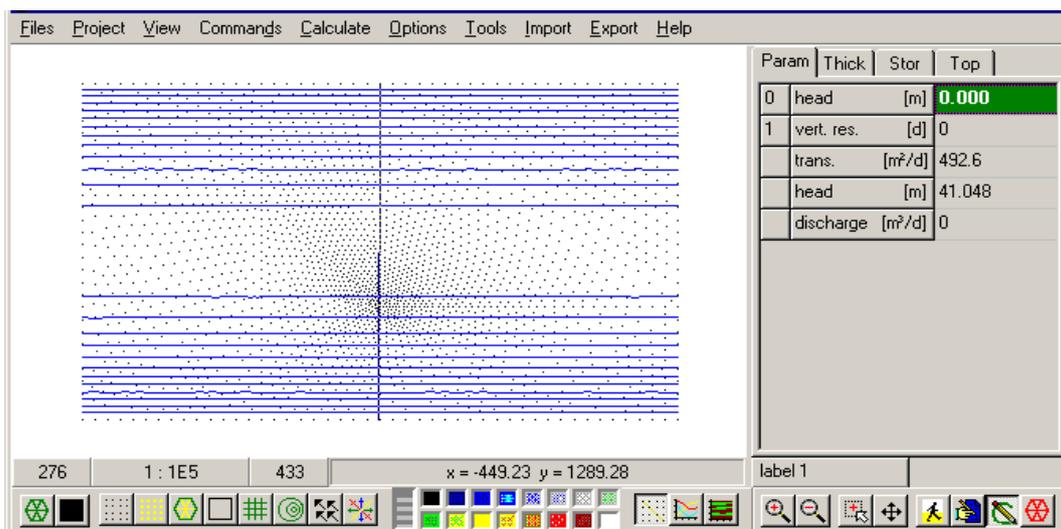

Figure 35: Selection of cross-section / head-profile trace
1. Go to Drawing mode (if this was not already the case) and either click on the -button (to the right of the color palette), press F10 or select Commands → Select profile. A line will appear on the map window. Position the mouse cursor somewhere on the northern model boundary and left click. Next position the mouse cursor somewhere on the southern model boundary and right click. This way the cross-section and head-profile trace has been selected (Figure 35):